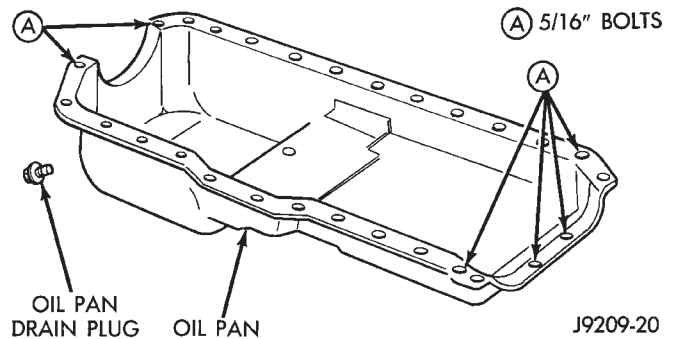

Fig. 3 Position of 5/16 inch Oil Pan Bolts
(3) Slide the one-piece gasket over the dowels and onto the block and timing case cover.
(4) Position the oil pan over the dowels and onto the gasket. If equipped with an oil level sensor, take care not to damage the sensor.
(5) Install the 1/4 inch oil pan bolts. Tighten these bolts to 14 N·m (120 in. lbs.) torque. Install the 5/16 inch oil pan bolts (Fig. 3). Tighten these bolts to 18 N·m (156 in. lbs.) torque.
(6) Remove the dowels. Install the remaining 1/4 inch oil pan bolts. Tighten these bolts to 14 N·m (120 in. lbs.) torque.
(7) Lower the engine until it is properly located on the engine mounts.
(8) Install the through bolts and tighten the nuts.
(9) Lower the jack stand and remove the piece of wood.
(10) If equipped with an oil level sensor, connect the sensor.
(11) Install the engine flywheel/transmission torque converter housing access cover.
(12) Install the engine starter motor.
(13) Connect the exhaust pipe to the hanger and to the engine exhaust manifold.
(14) Install the oil pan drain plug (Fig. 3). Tighten the plug to 34 N·m (25 ft. lbs.) torque.
(15) Lower the vehicle.
(16) Connect negative cable to battery.
(17) Fill the oil pan with engine oil to the specified level.